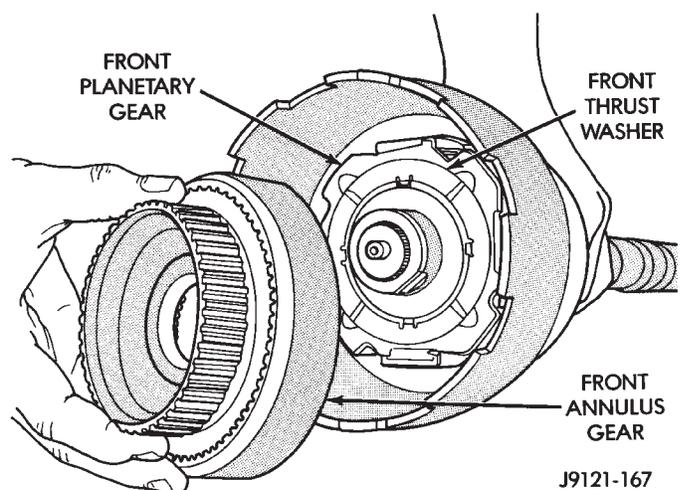

Fig. 202 Installing Front Planetary And Annulus Gears
(14) Install front planetary gear on output shaft and in driving shell (Fig. 202).
(15) Install front thrust washer on front planetary gear. Use enough petroleum jelly to hold washer in place and be sure all four washer tabs are seated.
(16) Assemble front annulus gear and support, if necessary. Be sure support snap ring is seated.
(17) Install front annulus on front planetary (Fig. 202).